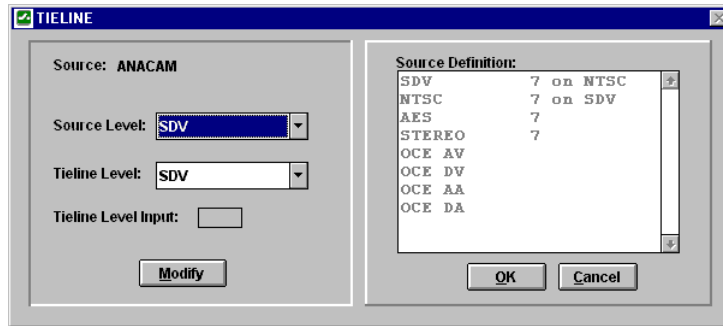

Figure 26 Tieline Source Definition Window
3. If one or more tielines have been configured, the **Tieline** button will be enabled. Clicking this button will open the TIELINE SOURCE DEFINITION window (Figure 26) which will allow the use of a tieline input for a **Selected Level**: